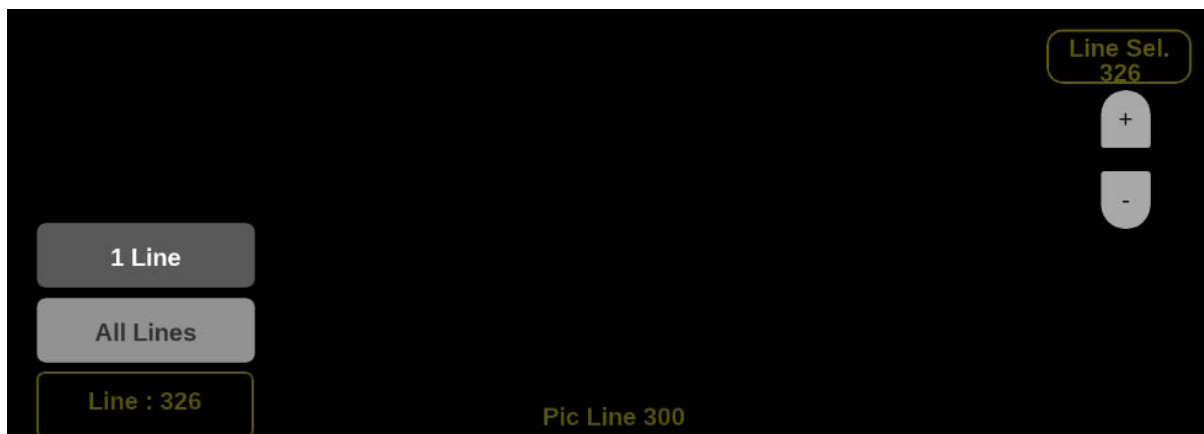

Figure 89: Stop Display on-screen tools – Line Select
1. Select the **Lines** button at the bottom of the application. (See Figure 89.)